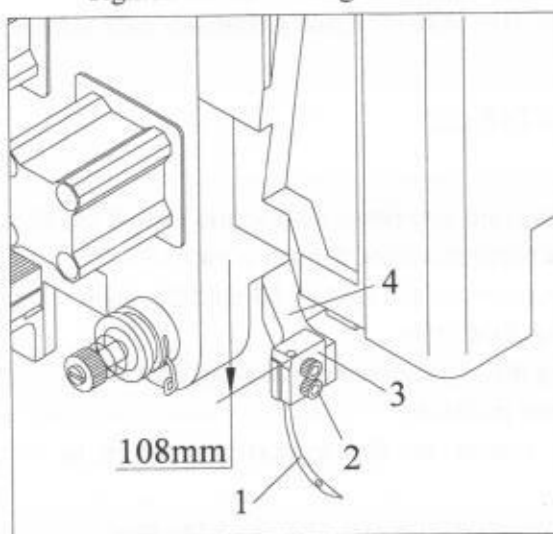
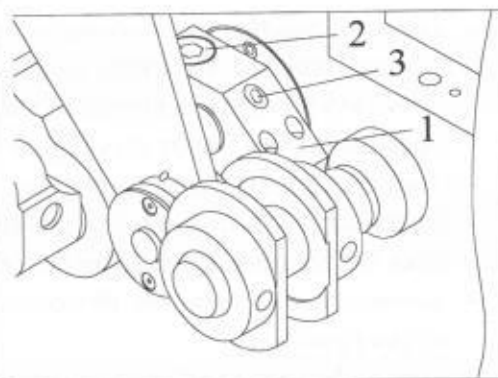

Fig.5
Fig.6
### 4.1 Needle replacement (Fig.5)
### 4.2 Set the highest position of the needle (Fig.5, Fig.6)
To ensure the highest position, remove the upper cover and the head cover, turn the pulley in the correct direction, letting the needle bar 4. come to its highest position, if the distance from the threading hole of the needle clamp 3. to the upper plate of the machine (upper cover is removed) is 108mm (as shown in Fig.5) then its position is right else is wrong (Fig.5).
To adjust this position, proceed as follows: (Fig.6)
- Turn the needle bar 4. (Fig.5) to the correct position as described above.